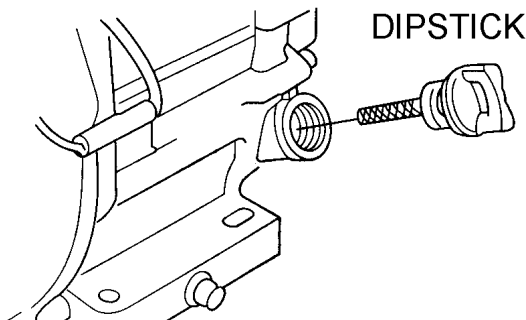

Figure 6. Engine Oil Dipstick Removal
2. Remove the filler dipstick from the engine oil filler hole (Figure 6) and wipe clean.